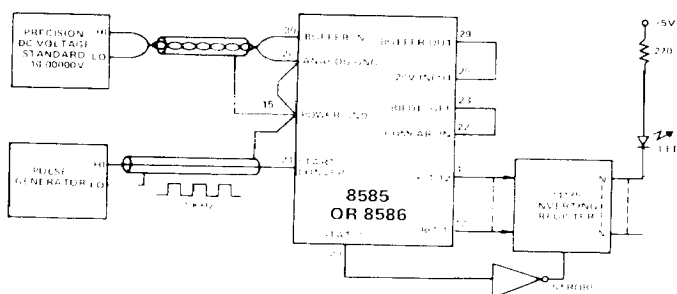

FIGURE 6. CIRCUIT FOR TESTING ACCURACY
The arrangement shown in Figure 6 may be used to measure the bit transitions. Offset trim, gain trim, and other standard connections are not shown. Shielded twisted pair cable is used to connect the Precision Voltage Standard, and each of the twelve bits requires its own LED indicator. The inverting register is used to increase the duty cycle of the LSB bits since they are held at logic "1" during most of the timing cycle as indicated in the timing diagram. The NOT outputs (N) from the register are used so that a lighted LED will represent logic "1". Readings should be taken with the converter energized, in thermal equilibrium at  $25^\circ\text{C}$ , and after a warm-up time of 5 minutes. The Pulse Generator can be set at any frequency up to the maximum allowed for the converter. The power supply voltages should be at their nominal values.